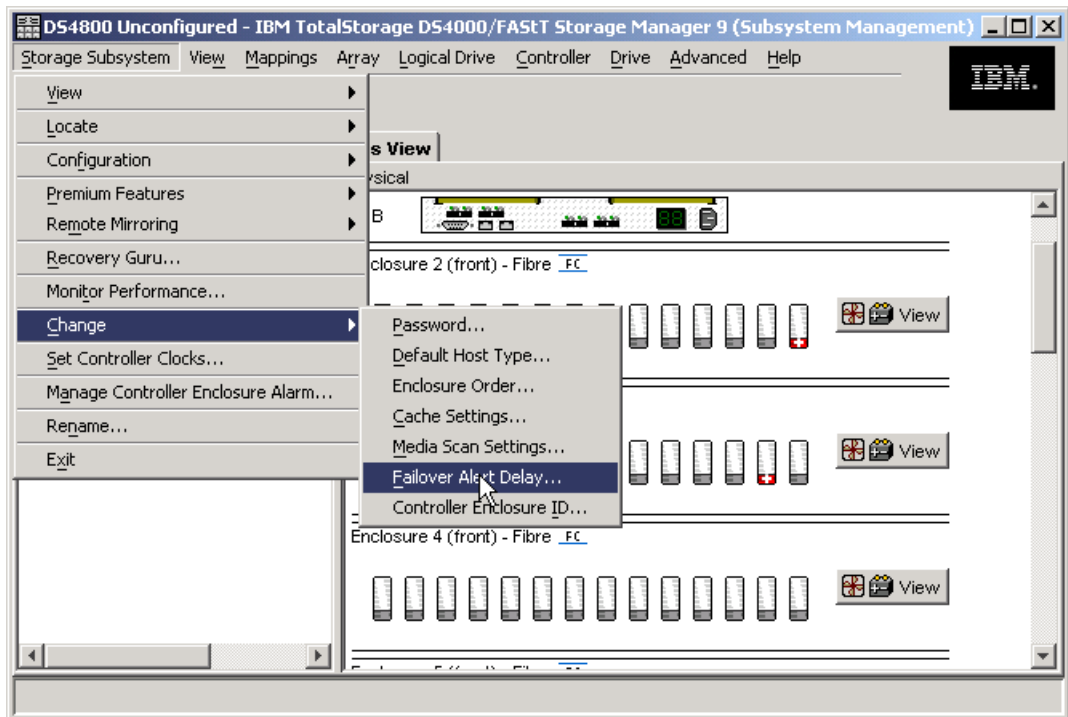

Figure 3-26 Changing the failover alert delay
1. Select the storage subsystem from the Subsystem Management window, and then select either the **Storage Subsystem** → **Change** → **Failover Alert Delay** menu option, or right-click and select **Change** → **Failover Alert Delay**. See Figure 3-26.